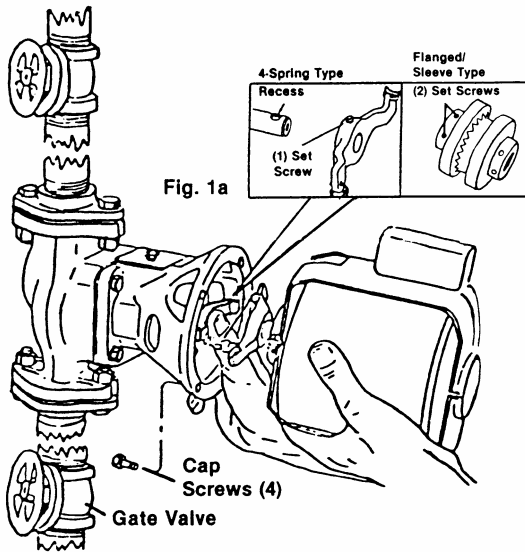

Fig 1. Removing motor Assembly
- 2b. Remove motor Motor Assembly (and attached Coupler) by removing 4 cap screws. See Fig. 1.